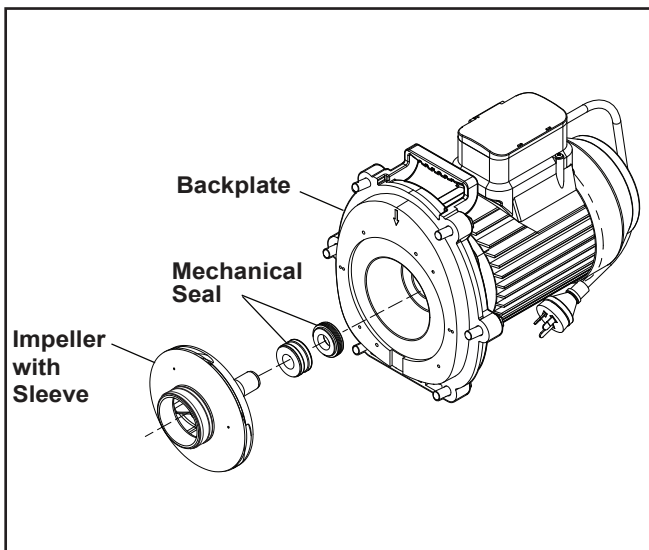

Figure 15. Remove the Impeller
7. Hold the motor shaft with a 1/4" hex allen wrench while unscrewing the impeller from the motor shaft with your hand. Turn the impeller counter-clockwise to unscrew it. See Figure 15.
2. Remove the carbon face seal half from the impeller shaft (See Figure 15). This is a spring-loaded seal. Grasp the portion of the seal closest to the impeller body and pull the seal off, using a twisting motion.